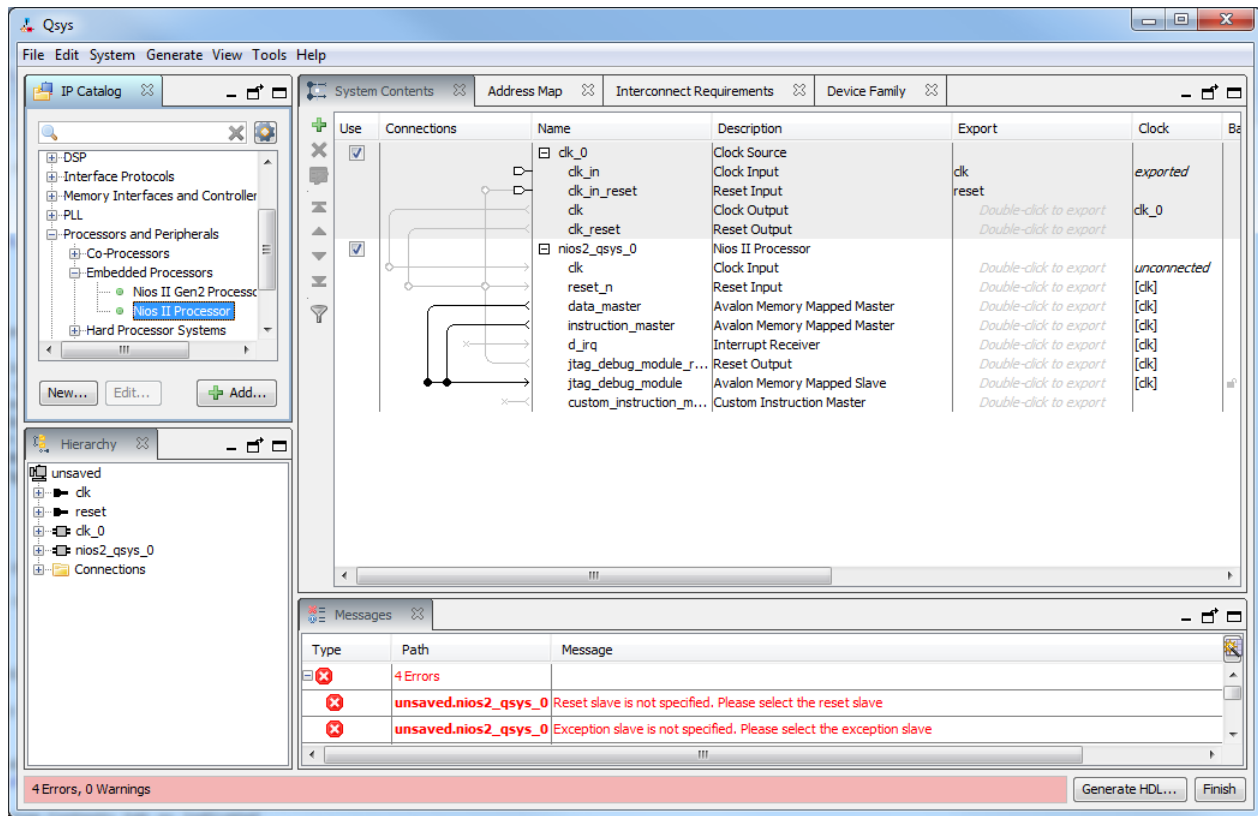

Figure 7. Inclusion of the Nios II processor in the design.
- Choose Nios II/e which is the economy version of the processor. This version is available for use without a paid license. The Nios II processor has *reset* and *interrupt* inputs. When one of these inputs is activated, the processor starts executing the instructions stored at memory addresses known as *reset vector* and *interrupt vector*, respectively. Since we have not yet included any memory components in our design, the Qsys tool will display corresponding error messages. Ignore these messages as we will provide the necessary information later. As of Quartus II version 14.0, you must disable the Include *reset\_req* signal for OCI RAM and Multi-Cycle Custom Instructions setting in the Advanced Features tab to ensure proper operation. It is important that the checkbox is unchecked, otherwise you will experience issues when loading programs onto the system using the Altera Monitor Program. Click Finish to return to the main Qsys window, which now shows the Nios II processor specified as indicated in Figure 7.